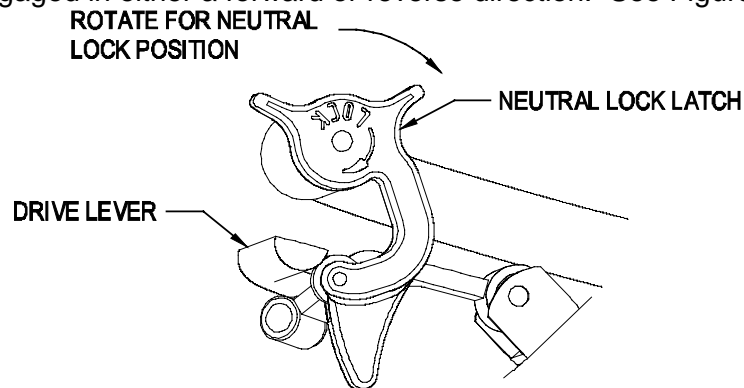

FIGURE 3
4.1.2 Drive Levers: Located on each side of the upper handle assembly directly below the handle grips (See Figure 3). These levers individually control the speed and direction of each drive wheel. When the speed control lever is moved out of the neutral position and the neutral lock latches are moved into the drive position, as shown in Figure 3, and the drive levers are released, the drive wheels are engaged in the forward direction.
4.1.3 Neutral Lock Latches: Located at the end of the handles. These latches allow the operator to lock the drive levers in "neutral" where neither the drive wheels are engaged in either a forward or reverse direction. See Figure 3.